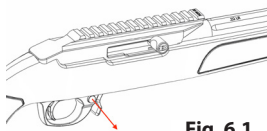

Fig. 6.1
- Ensure safety is engaged by pushing the safety mechanism to the right, or to the position that displays no red ring. (Fig 6.1).